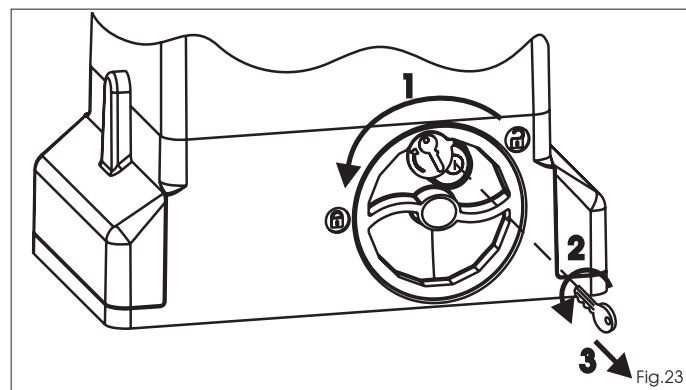

Fig.23
- 1) Turn the release system anti-clockwise, until its stop is reached, Fig. 23 ref. 1.
- 2) Turn the key anti-clockwise and remove it from the lock, Fig. 23 ref. 2 and 3.